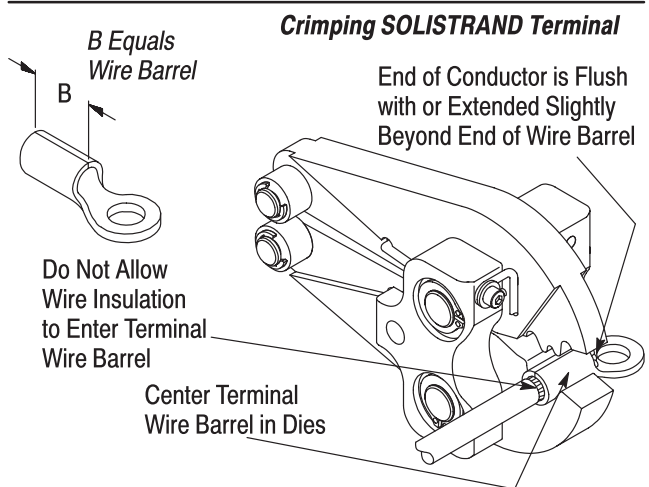

Figure 3
4. CRIMPING PROCEDURES (Figures 3, 4, and 5)
2. Open crimping jaws by squeezing the rollers simultaneously; then place the terminal or splice into the center of the appropriate crimping chamber. Use the correct crimp chamber for the specific wire size. Refer to Figures 3, 4, and 5.
4. Insert stripped wire, as shown in Figures 3, 4, and 5. DO NOT allow wire insulation to enter terminal or splice wire barrel.